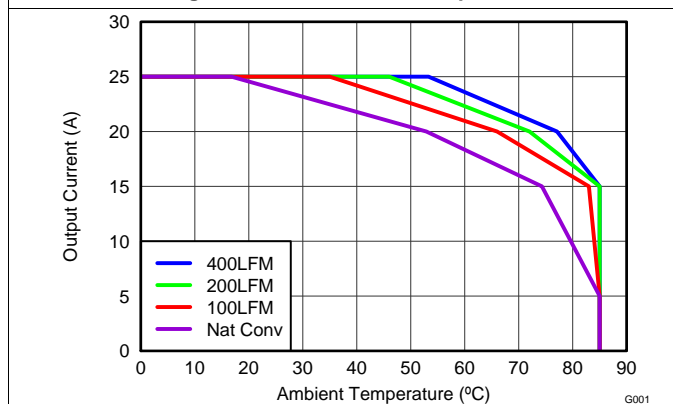
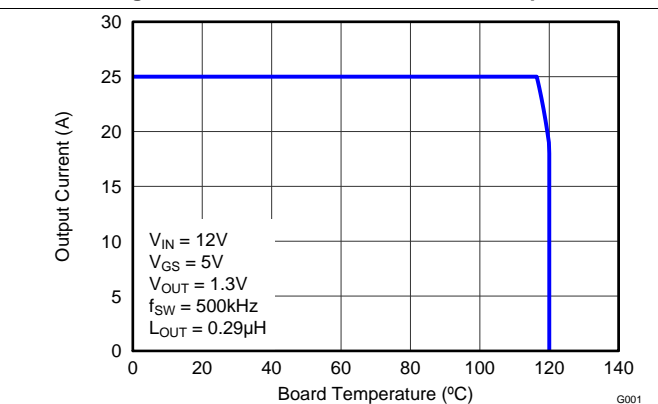

Figure 3. Safe Operating Area – PCB Horizontal Mount
Figure 4. Typical Safe Operating Area
$T_J = 125^{\circ}\text{C}$ , unless stated otherwise. The Typical Power Block System Characteristic curves Figure 3 and Figure 4 are based on measurements made on a PCB design with dimensions of 4.0 inches (W) × 3.5 inches (L) × 0.062 inch (H) and 6 copper layers of 1 oz. copper thickness. See Application and Implementation for detailed explanation.
$T_J = 125^\circ\text{C}$ , unless stated otherwise. The Typical Power Block System Characteristic curves Figure 3 and Figure 4 are based on measurements made on a PCB design with dimensions of 4.0 inches (W) x 3.5 inches (L) x 0.062 inch (H) and 6 copper layers of 1 oz. copper thickness. See Application and Implementation for detailed explanation.
The SOA curves in the CSD87588N data sheet provide guidance on the temperature boundaries within an operating system by incorporating the thermal resistance and system power loss. Figure 3 to Figure 4 outline the temperature and airflow conditions required for a given load current. The area under the curve dictates the safe operating area. All the curves are based on measurements made on a PCB design with dimensions of 4 inches (W) x 3.5 inches (L) x 0.062 inch (T) and 6 copper layers of 1 oz. copper thickness.